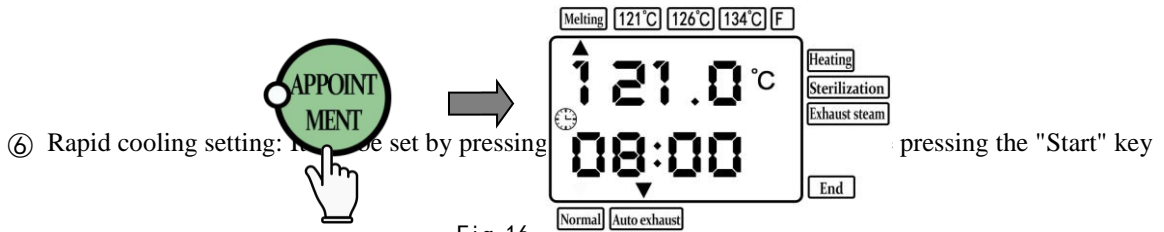

Fig. 16
⑤ Reservation setting: Press the "Reservation" key to the interface shown in Fig.16, and then follow the steps in section ② (setting sterilization time) above to set the reservation time. After setting, press the "Start" key to enter the reservation countdown state.